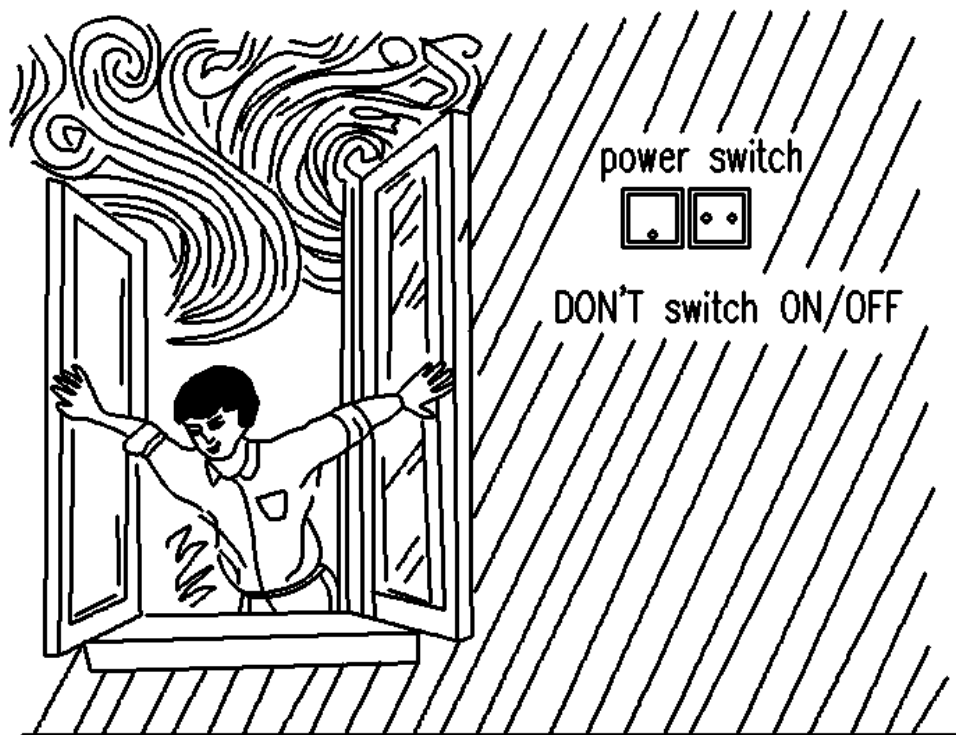

Fig.11
- In case of gas leakage, please shut off the gas supply and open the windows immediately and gently. Actions such as ignition, switching on/off the electric power are strictly prohibited to avoid explosion and fire (Fig.11).